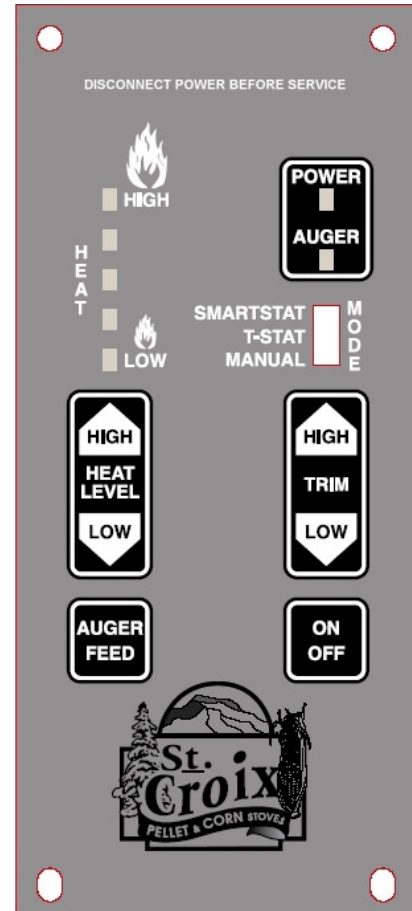

Figure 2
**ADDING CORN TO THE MIX** - The Prescott is approved to burn a mixture of pellets and corn (maximum 50% corn). The Thermostat Switch should be set to the Manual position. (*See Fig. 2 on page 5*) Operation of the stove doesn't change when burning a mixture of pellets and corn. The burn pot will need to be cleaned on a daily basis, using the "Pot Scraper Tool" shown in figure 6 on page 12. Use the Pot Scraper Tool to remove any clinkers that build up because of the corn when needed. For more information, read the Daily, Periodic and Yearly Maintenance section towards the back of this manual.
A closer look at the Control Board to the right in figure 2 will explain how the board works. There are essentially 4 buttons on the control board. Two of these buttons, the **Heat Level** and **Trim** Buttons, have a High/Low side to advance these settings up or down. There is a **Slide Switch** that controls the Thermostat Mode and an **LED Light** bar that indicates which of the 5 Heat Settings the Prescott is running on.